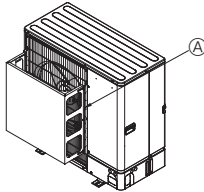
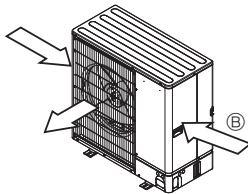

Fig. 2-5
Fig. 2-6
- ② Install an optional air guide if the unit is installed in a location where strong winds from a typhoon, etc. may directly enter the air outlet. (Fig. 2-5)
- ③ Air outlet guide
- ④ Position the unit so that the air outlet blows perpendicularly to the seasonal wind direction, if possible. (Fig. 2-6)
- ⑤ Wind direction